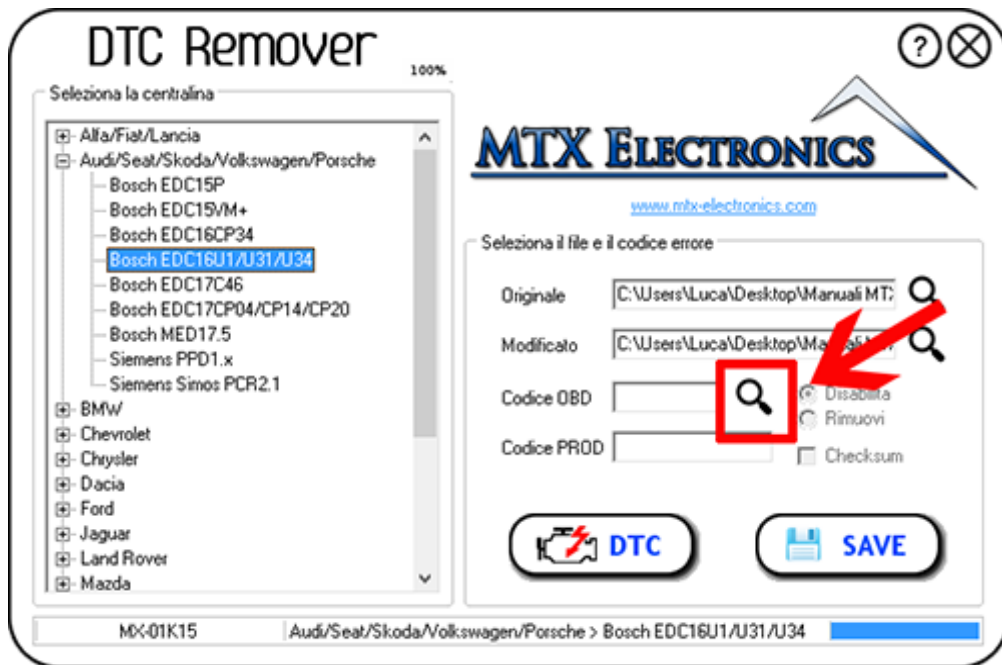

Figure 5
5. To use the SCAN function we click on the magnifying glass, after a few seconds the file will be analyzed and eventually you will see a table with the list of all OBD codes and REF detected (the REF codes are displayed as MAN in the list), hereinafter in sequence as in figures 5, 6, 7 and 8 ;